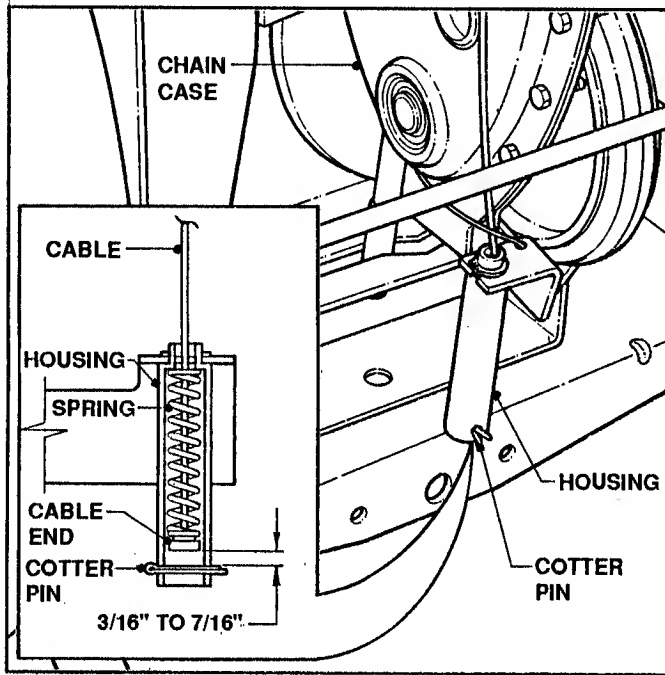

FIGURE 4.17
3. Measure the distance between end of clutch/brake cable and top of cotter pin. Measurement should be no less than 3/16" and no greater than 7/16". See Figure 4.17.
5. Adjust cable up or down using the jam nuts to obtain a distance of  $5/16$ " between end of clutch/brake cable and top of cotter pin. Refer to Figure 4.17.